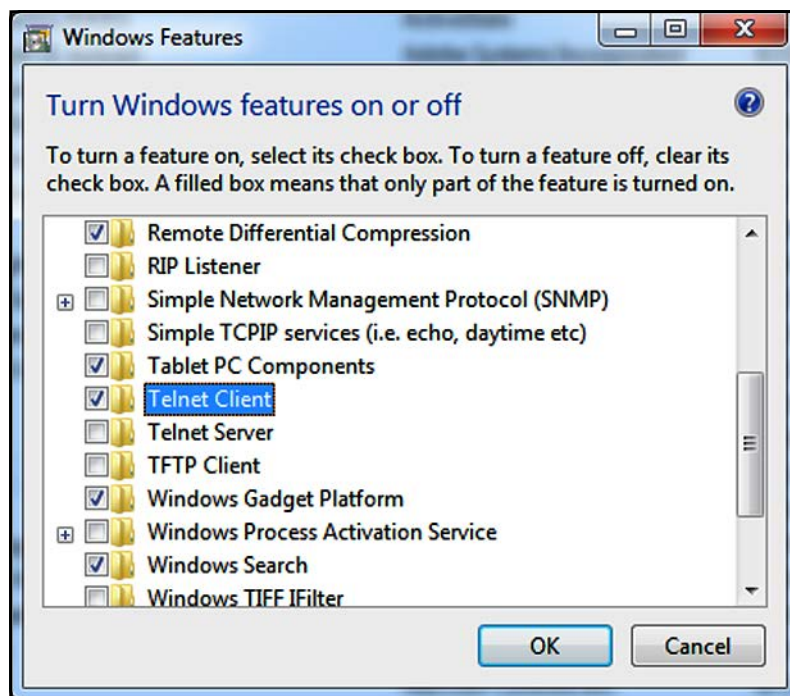

Figure 114: Windows Features Dialog Box
4. In the Windows Features dialog box, check the **Telnet Client** check box (see Figure 114 below).